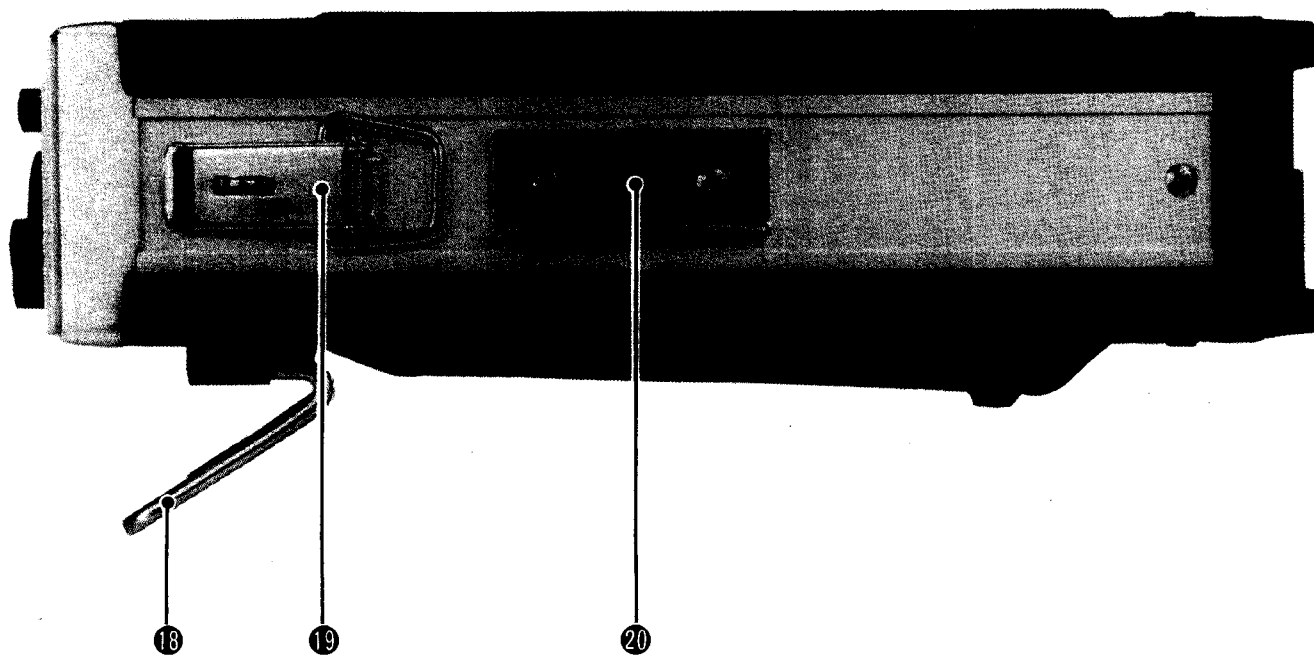

Fig. 3
2.3 SIDE PANEL (Refer to Fig. 3)
If you operate the TR-7500 as a fixed station, attach the supplied Stand-off bracket ⑩ to it as illustrated in Fig. 3. The TR-7500 is designed so as to be used with a DC power supply having a current capacity of around 3.0A at the rated operating voltage of 13.8V.